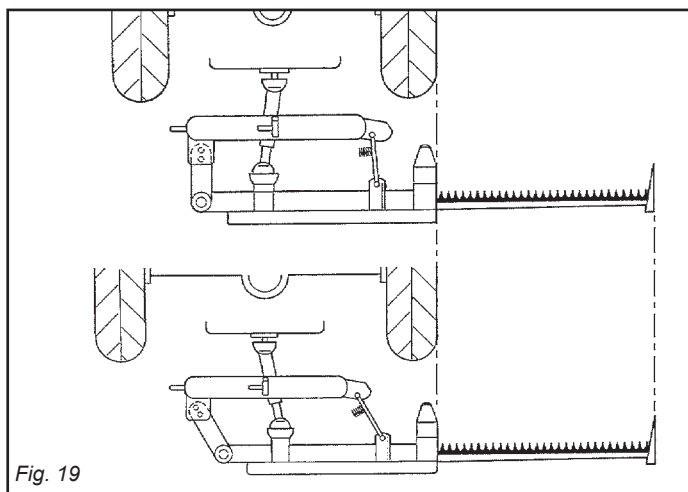

Fig. 19
To ensure optimum use, the mowing bar must completely project from the tractor (Fig. 19); three situations are shown in the Figures (20):